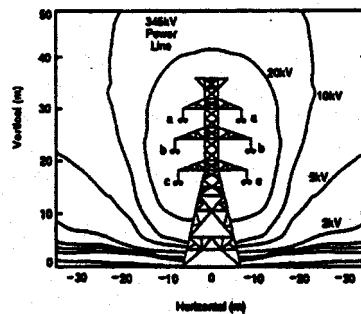

Figure 2. Equipotential Contours Surrounding Power Lines.
- VII.3.2.1. It is recommended that Superior Optics suggest the desired mounting location of FREE-SPAN in relation to the phase conductors at the structure. Superior Optics has developed a computer program to determine the optimum position for FREE-SPAN cable. The program investigates the physical relationship of the structure and the electrical phenomena of the phase conductors and provides a profile with plotted equipotential contours, as shown in Figure 2.